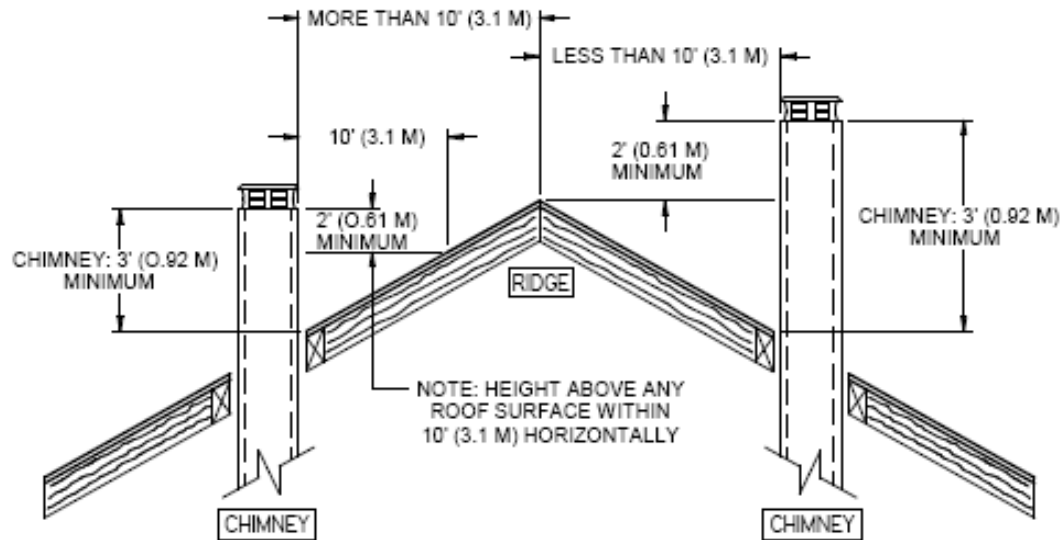

Figure 30a
6. The chimney must extend at least 3 ft. (92 cm) above its point of contact with the roof and at least 2 ft. (61 cm) higher than any wall, roof or building within 10 ft. (3.1 m) of it. See **Figure 30a and 30b** to determine the configuration that applies to your roof (flat or sloped roof and the distance between the chimney and the highest point of the roof and/or the nearest chimney).